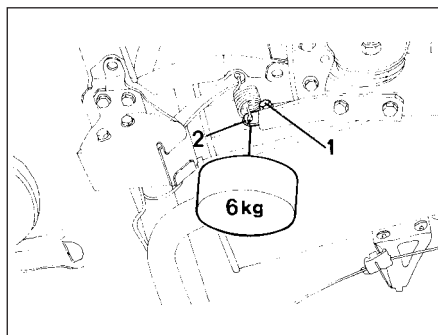

Fig. 8.10 Weight attachment point for pressure regulating valve adjustment (Sec 10)
8 Refer to Fig. 8.10 and slacken the valve bracket securing bolt (1).